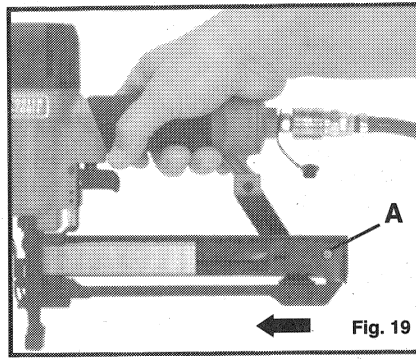

Fig. 19
4. Depress the follower latch button (A) Fig. 19, to unlock the follower and slide forward against staples.